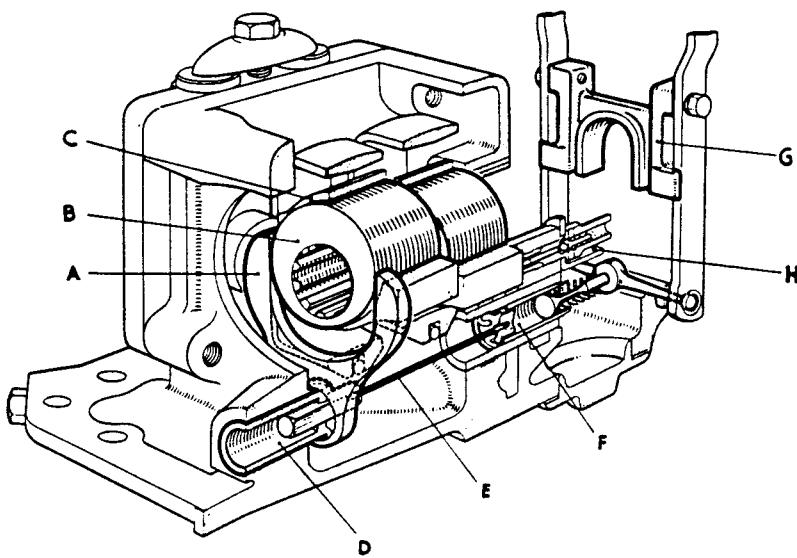

FIG. 28.
The oscillating mechanism operates as follows, refer to Fig. 28.
- (a) Disconnect one side of the stabilizer (G. Fig. 28) before separating the hand control fork from the control valve.
- (b) After removing the valve chamber assemblies, unscrew the bolt securing the oscillating fork bush (D. Fig. 28), remove tab washer and pull fork hard back against pump face before lifting out pistons, cams and cam blocks.
An improved safety valve was introduced and the safety valve (24) shown in Fig. 4., replaced by a check valve retainer. The shield, introduced at Tractor Serial No. 134001 and shown (H) in Fig. 28, was deleted.